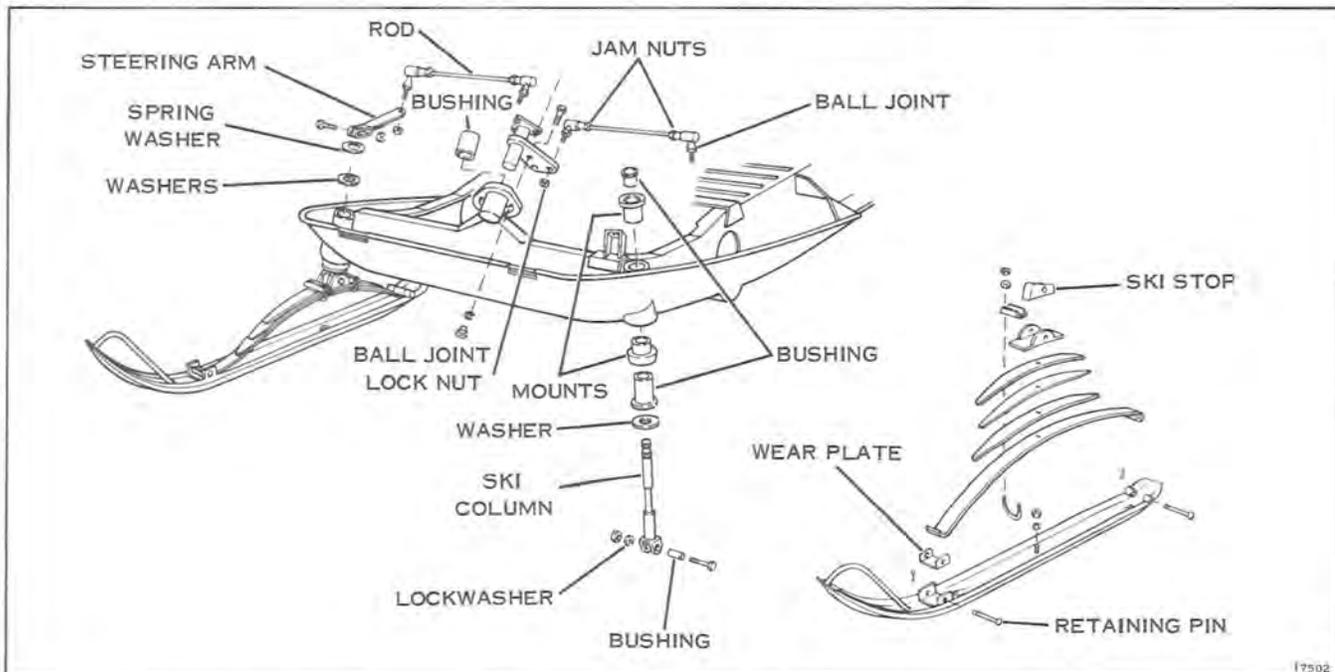

Figure 11-2
- c. Remove steering arm from ski column. See Figure 11-2.
- b. Inspect steering column bushing and replace if worn. See Figure 11-2.
- Loosen jam nuts at outer end of tie rods. See Figure 11-2.